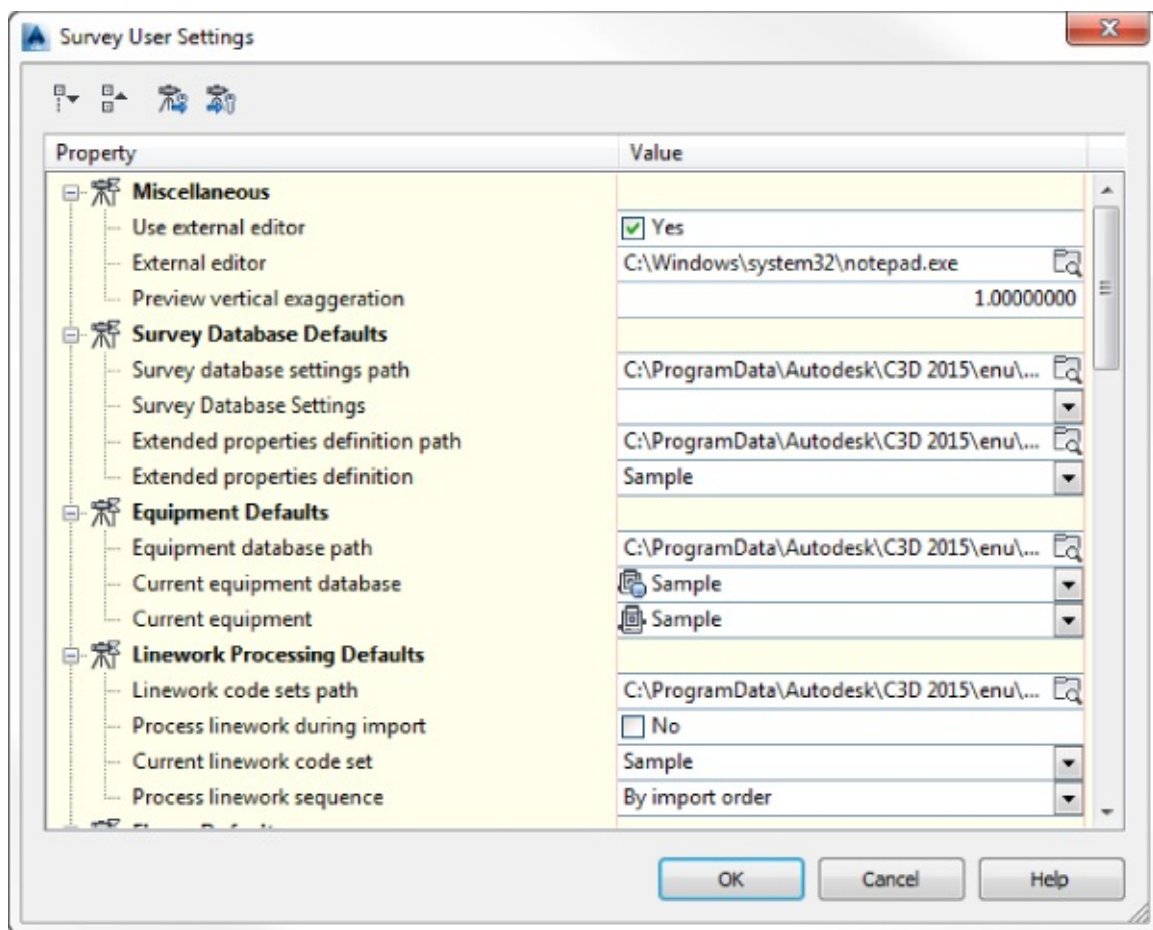

Figure 2.1 Survey User Settings dialog
Your survey database defaults, equipment database, linework code set, and the figure prefix database should be in place before you import your first survey. You can find the location of these files by going to Toolspace > Survey tab and clicking the Survey User Settings button in the upper-left corner of the palette. The dialog shown in Figure 2.1 opens.
9. Save the settings to the folder specified in the Survey User Settings dialog (see Figure 2.1) as `MySettings.sdb_set` and then click OK.